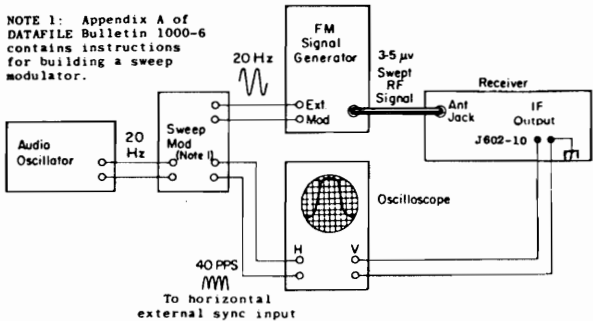

Figure 5 - Test Setup for 20 Hz Double-Trace Sweep Alignment
1. Attach an oscilloscope probe to IF AMP. MTR. (J602-10). (Refer to Figure 5).
Connect the isolation transformer input across the resistor. Connect the isolation transformer output to the Distortion Analyzer (See Figure 5).